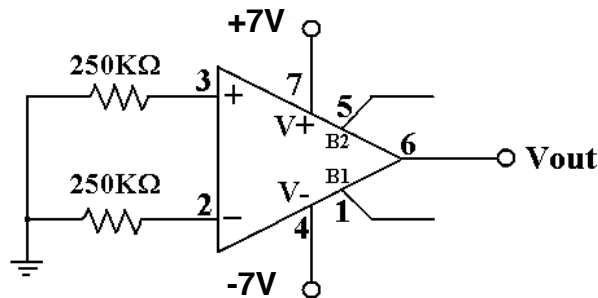

Fig. 4. Offset Current Measurement Configuration
- Connect the circuit in Fig. 4 and use the dual power supply  $\pm 7\text{ V}$ . Measure the resistor values accurately before you connect them. Measure the voltages across the two  $250\text{ k}\Omega$  resistors. Connect the Opamp output to ground.